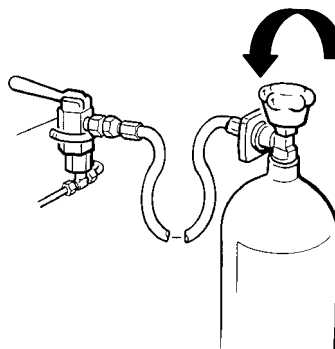

Fig. 21 Connecting air bottle
- Air bottles with international filling connector can be connected with filling adaptor (part no. 08487-635) to the German filling connector or with filling adapter (part no. 03147-635) directly to the filling hose (see Fig. 21)